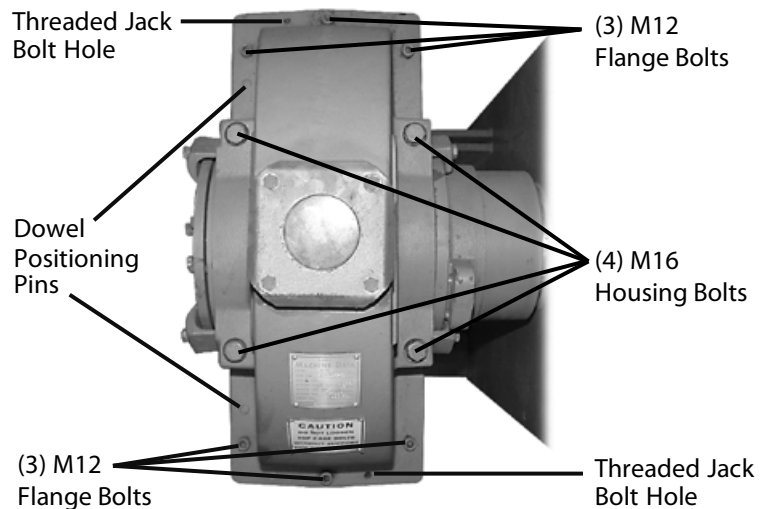

Figure 50 - Top View of Gear Case
3. Remove the six (6) M12 and four (4) M16 bolts from the top of the gear case. See Figure 50.